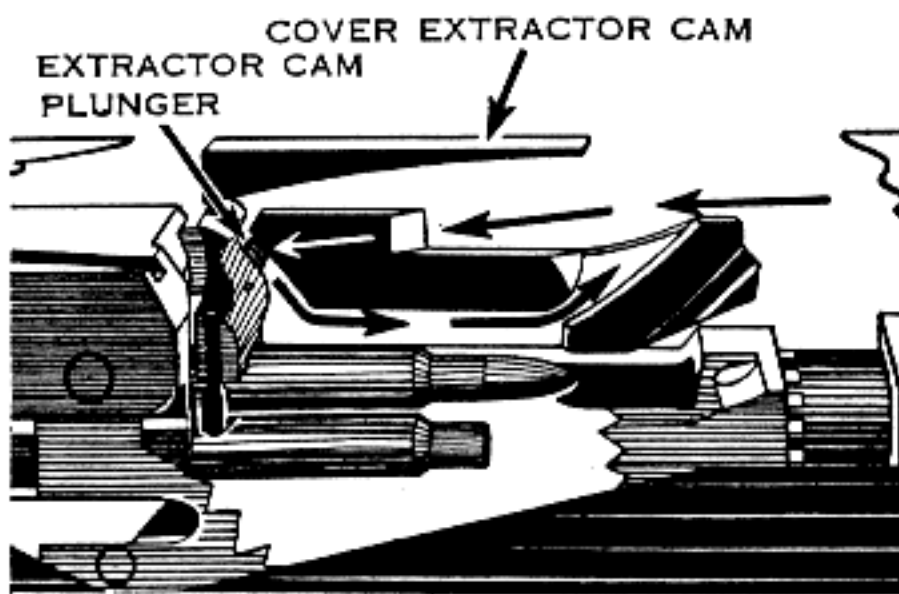

Figure 61. Path of extractor cam plunger.
b. *Second Phase.* As the recoiling groups move to the rear, the extractor begins the removal of the round from the belt. The extractor which is pressed down by the cover extractor spring withdraws the new round from the belt when the bolt moves to the rear in recoil. The extractor is guided by the extractor feed cam. The extractor cam plunger is forced in by the beveled surface of the extractor feed cam and the extractor is forced down by the cover extractor cam (fig. 61). As the bolt starts to move forward the extractor cam plunger moves down under the ramp of the extractor feed cam and positions the cartridge in the T-slot in line with the chamber, completing the feeding phase.
b. *Second Phase.* As the bolt continues forward, the extractor rises as the extractor cam plunger rides up on the extractor cam (fig. 61). As the extractor rises, the ejector is forced outward by the cartridge case into the half-moon recess of the barrel extension, and releases its hold on the cartridge case. The bolt moves to its forward position, fully seating the new round in the chamber. At the same time, the extractor rises over the extractor cam and, with the ejector, grips the next round in the belt.
After the bolt reaches its rearmost position, it starts forward under the force of the driving spring. The extractor cam plunger, moving down behind the ramp on the extractor feed cam, carries with it the extractor, which forces the new round down into the T-slot. At the same time, if the empty case in the T-slot has not already fallen out, it is forced from the T-slot by the tip of the ejector (fig. 61).